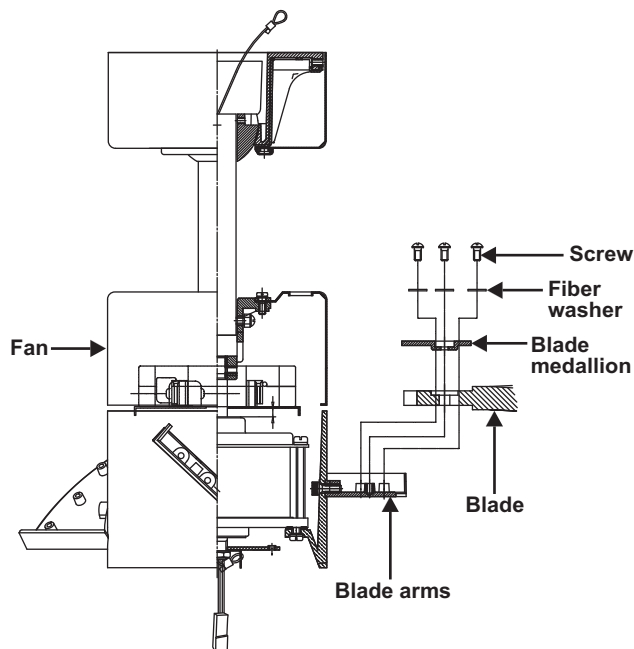

Figure 14
1. Fasten the blades to the blade arms and blade medallion using the blade attachment screws and fiber washers. Start a screw with fiber washer into the blade medallion, but do not tighten. (Fig. 14)